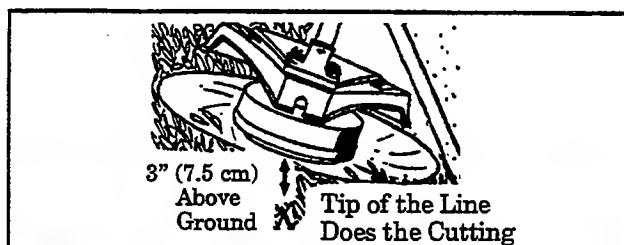

Figure 11
1. **TRIMMING** - Figure 11. Hold bottom of the trimmer head about 3" (7.5 cm) above ground and at an angle. Allow only the tip of the line to make contact. Do not force trimmer line into work area.